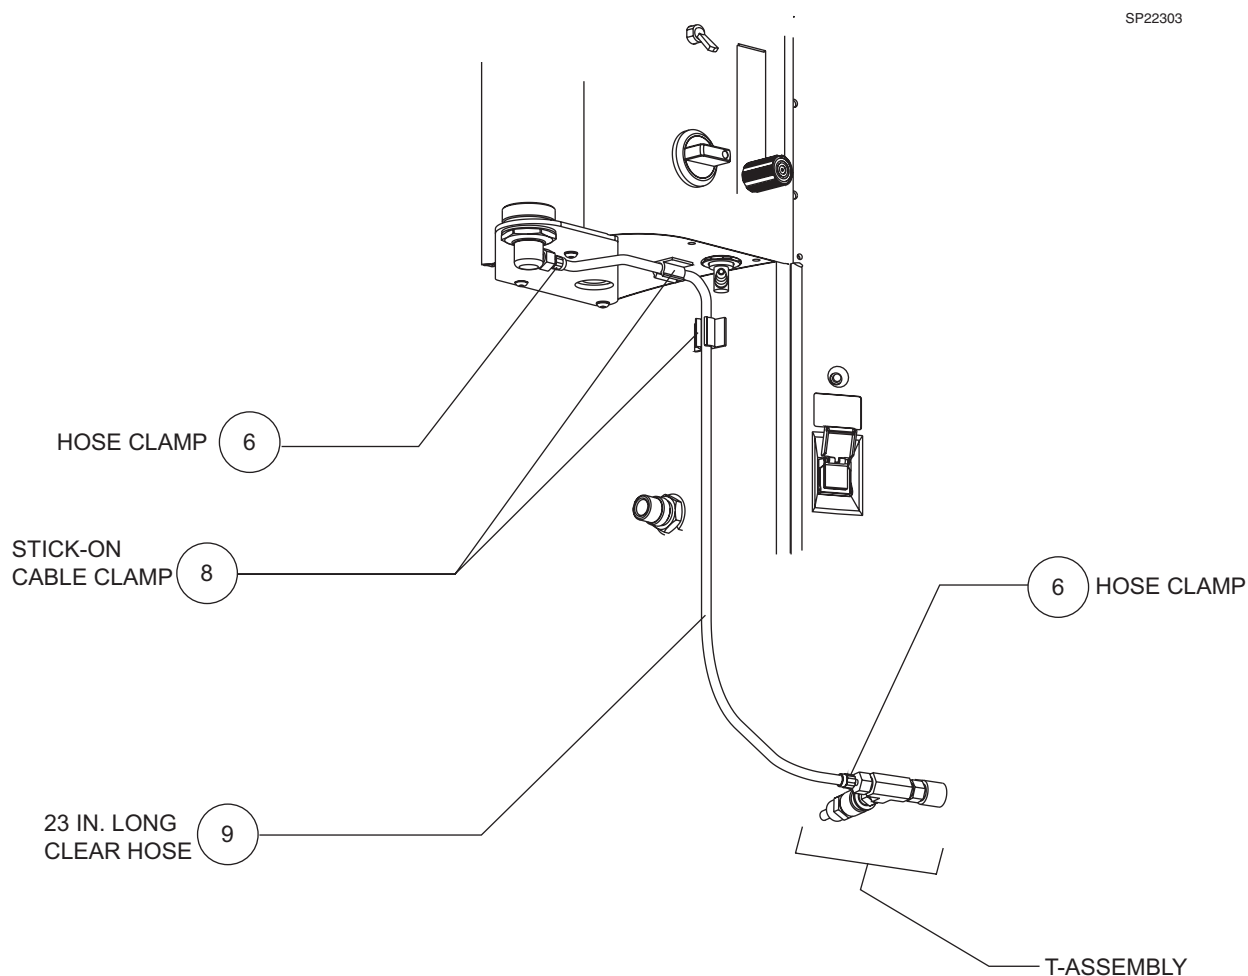

FIGURE 3. Hose Installation
5. Place a hose clamp (6) on each end of the 23 in. long piece of clear hose (9) supplied in the kit.
6. Attach one end of the hose to the hose barb on the gauge mount. Attach the other end to the hose barb on the T-assembly. Secure both ends with the hose clamps. See Figure 3.
7. Install two stick-on cable clamps (8) in the approximate locations shown in the illustration. Route the tubing as shown.